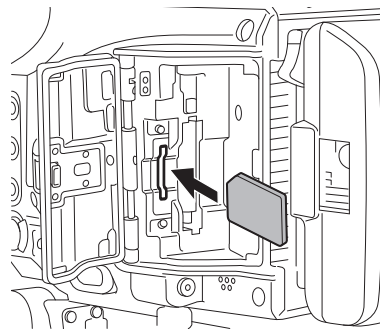

Fig. 2
**2** Insert the SD memory card with the label facing up into the sub slot, and close the slot cover. (Fig. 2)